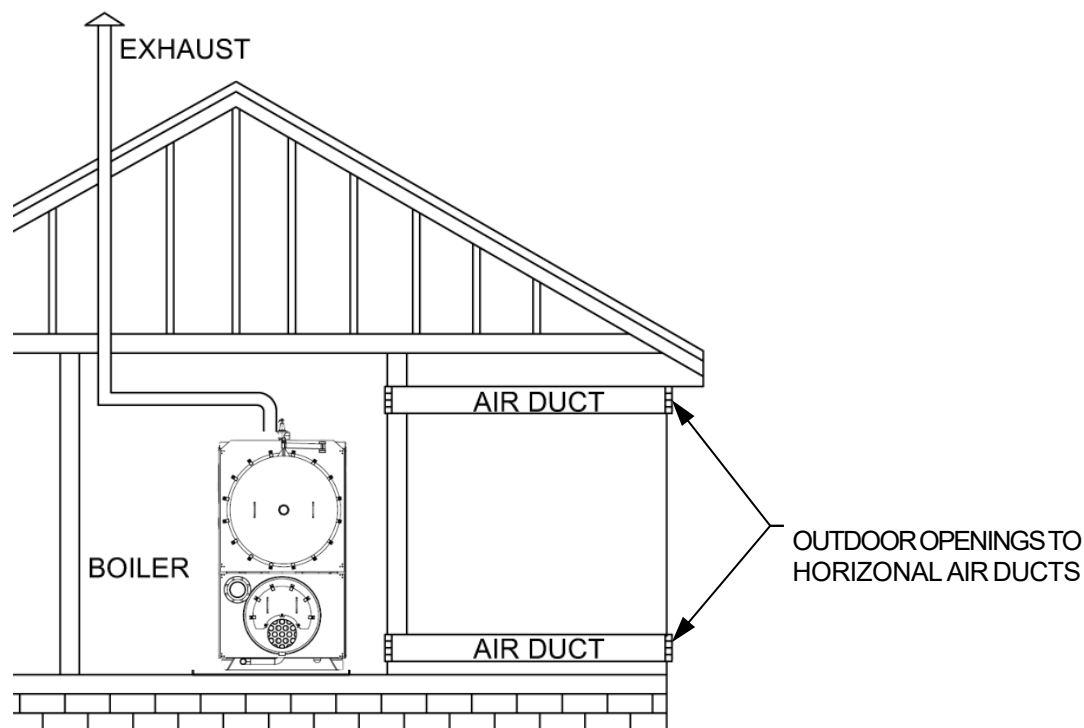

Figure 5: All Combustion Air from Outdoors through Horizontal Ducts
- When communicating with the outdoors through horizontal ducts, each opening shall have a minimum free area of 1 inch² per 2,000 BTU/hr. (1100 mm²/kW) of total input rating of all appliances in the space (see Figure 5).